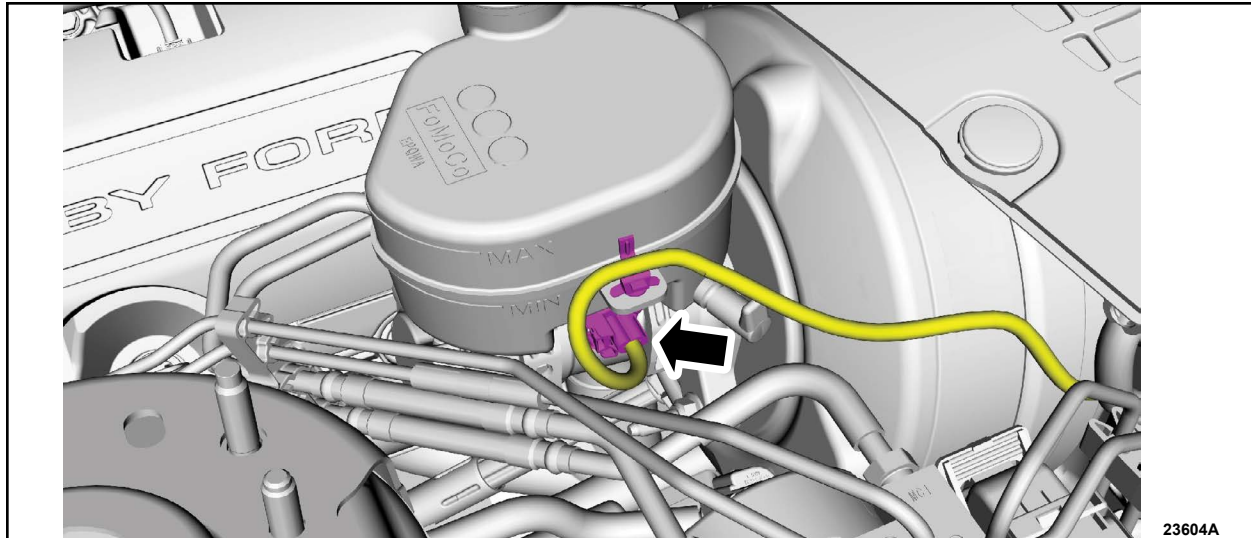

FIGURE 7
23. Disconnect the brake fluid level sensor electrical connector. See Figure 7.